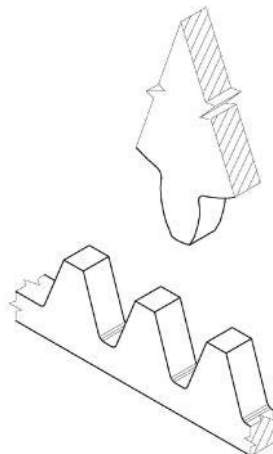

FIG. 7b
e) Include, beneath the pinion gear tooth, an isometric view of a part of the rack, which is suitable to mesh with the pinion rear tooth as shown in figure 7b.